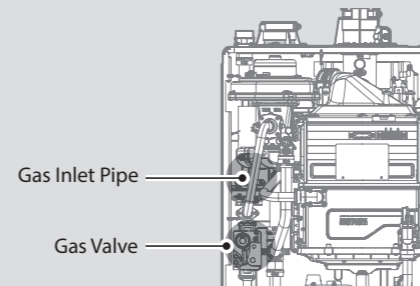

Figure 2. NCB-H Series Internal Components
- With the internal components exposed, locate the gas inlet pipe and the gas valve, as shown in Figure 2.